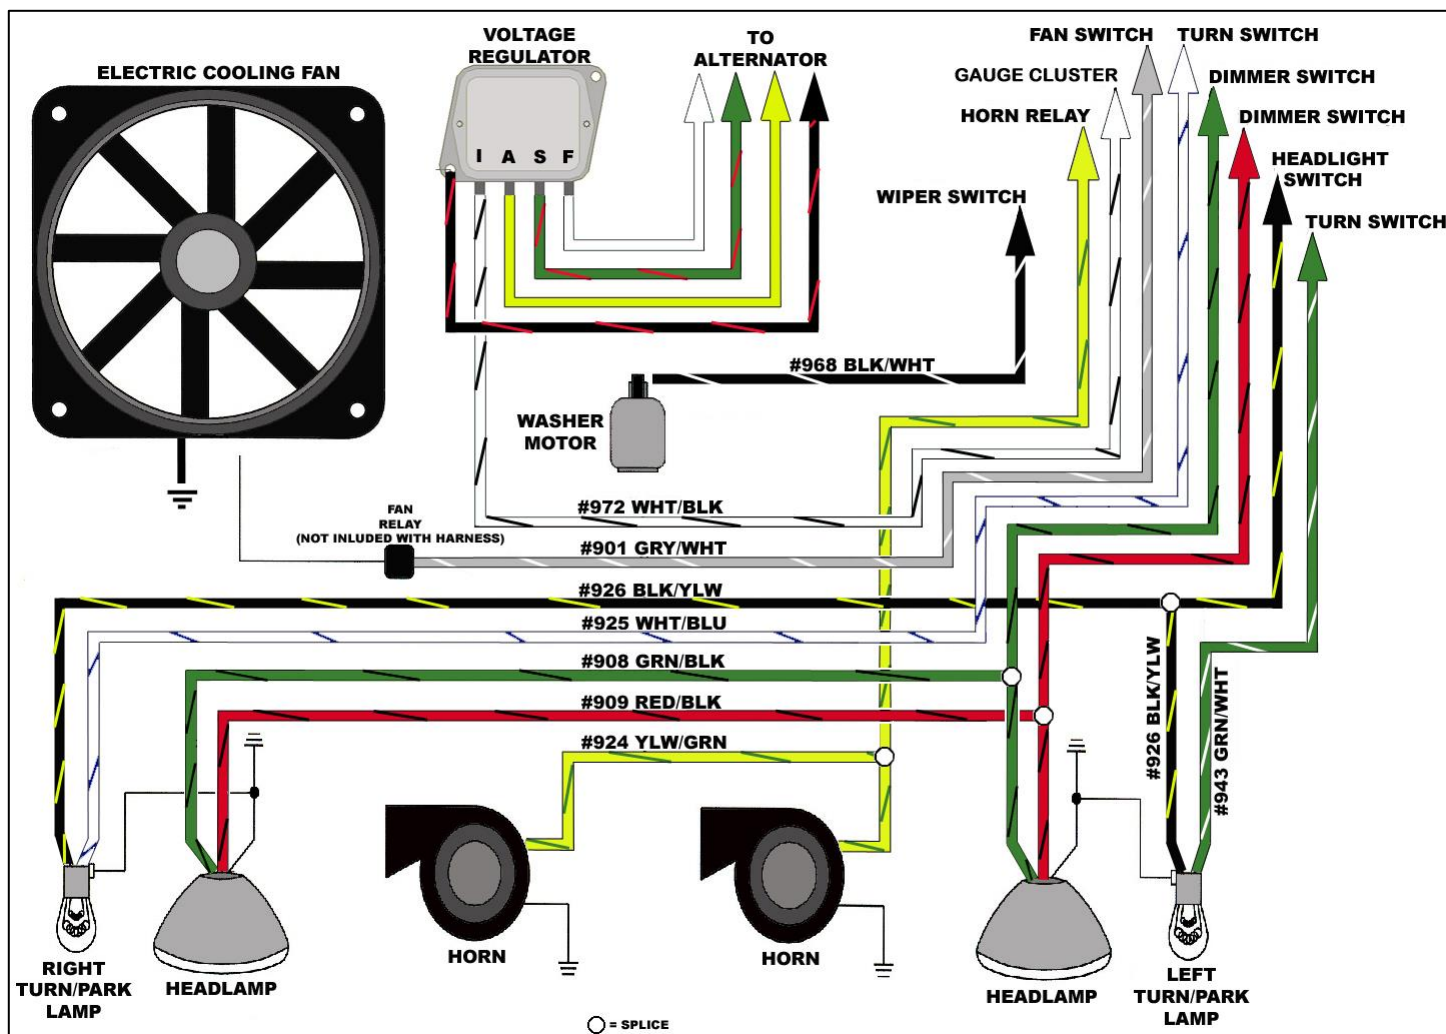

Figure 8 Headlight Section B Wiring
- Connect the wires in HEADLIGHT SECTION B according to **Figure 8**. All Headlight wires, Turn signal/park lamp connections, and both Horn wires are terminated and have the correct connectors already installed, locate the left and right side of both and make the connections. Ground the (blk) wires from the headlight connector to the chassis.